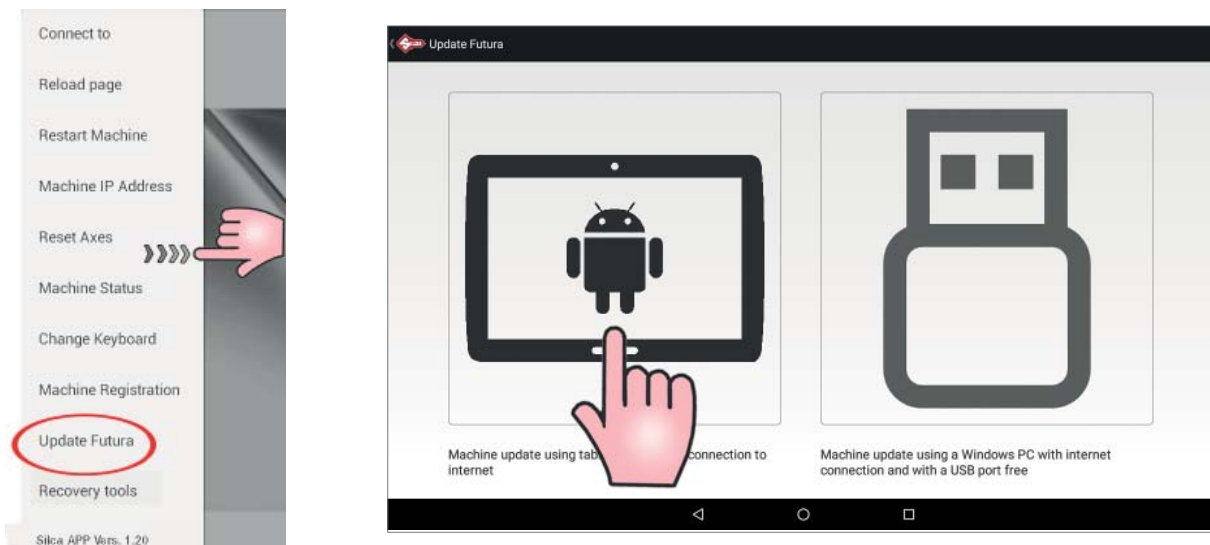

Fig. 18
- Click on the tablet image (Fig. 18) and follow the guided procedure (if the tablet is not connected to a Wi-Fi network you will see a screen from which a Wi-Fi network can be selected).